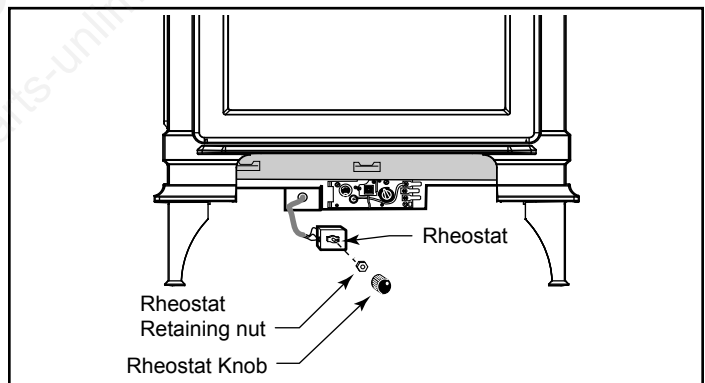

Figure 73 - Attach the fan rheostat.
8. After sliding the firebox in place, the rheostat control switch attaches to the left side of the valve bracket at the front of the stove. (Figure 73)